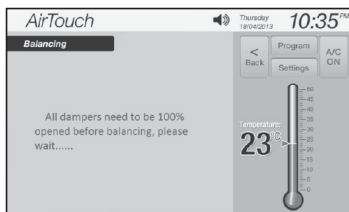
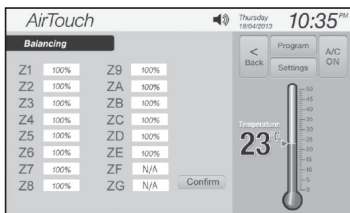

Figure 17.
Figure 18.
- The system will show a prompt (Figure 17) and then enter the 'Balancing' screen (Figure 18).